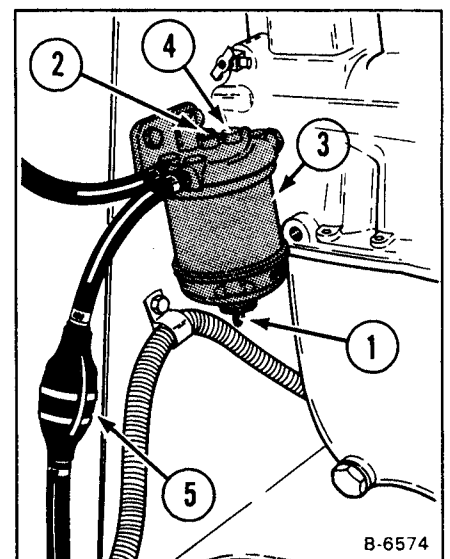

Fig. 1-12 Fuel Filter
The fuel filter is at the front left of the engine (Fig. 1-12). See the Service Schedule (Page 1-1) for the service interval for the water trap and the fuel filter element.
(1) If there is water in the trap at the bottom of the filter, loosen the thumb screw (Fig. 1-12, Item 1) to remove the adapter.
(2) Tighten the thumb screw after all the water is removed.
(1) Clean the area around the fuel filter. Put a clamp on the fuel supply hose from the fuel tank.
(2) Remove the thumb screw at the bottom of the filter and drain the fuel from the filter.
(3) Remove the small bolt at the top of the filter head (Fig. 1-12, Item 2) while holding the nut below the filter bowl. Remove the filter bowl.
(4) Remove the filter element (Fig. 1-12, Item 3) and discard it.
(5) Check the condition of the seals. Replace as needed.
(6) Install a new filter element with the bowl, nut and thumb screw. Tighten the thumb screw finger tight only. Remove the clamp.